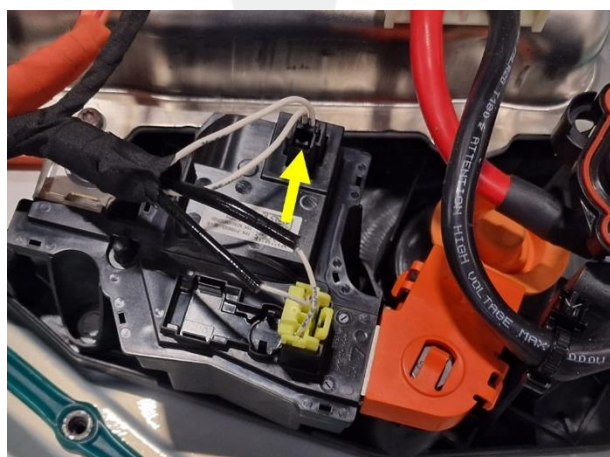

Figure 7
10. Disconnect the positive pack contactor switch connector (Figure 7).